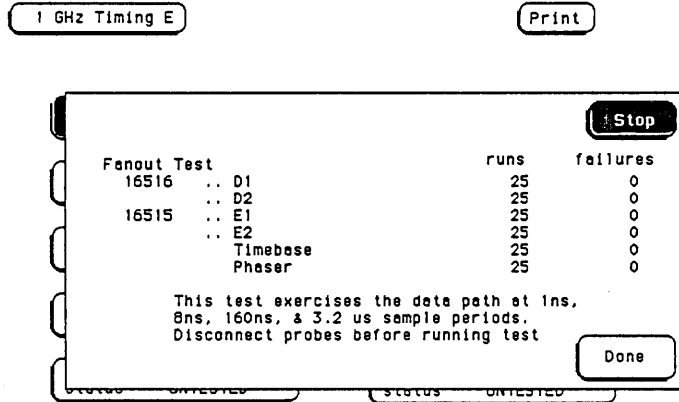

Figure 6-9. Stop Field
10. To stop a Repetitive run, touch **Stop**. See figure 6-9. To exit the test touch **Done**.